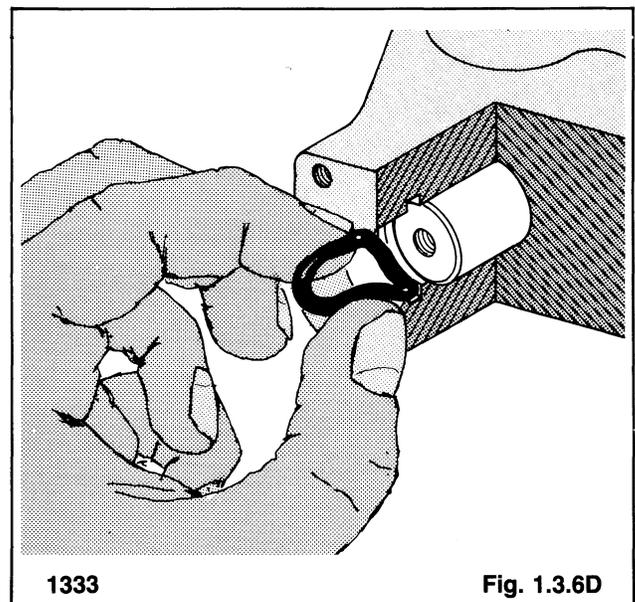

Fig. 1.3.6D
7. Pull the spool out of the front of the valve body until the back edge of the spool is in line with the back edge of the O-ring groove at the rear of the valve housing (fig. 1.3.6d).
9. Lubricate a new O-ring with system oil and install in the O-ring groove (fig. 1.3.6d).